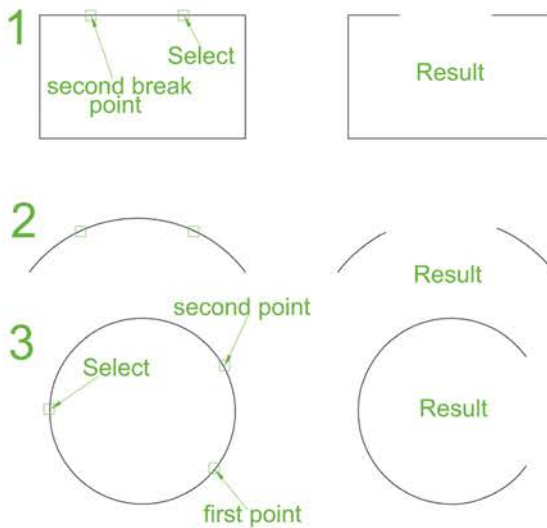

Fig. 6.32 Examples – Break
EXAMPLES – BREAK (FIG. 6.32)
1. Construct the rectangle, arc and circle (Fig. 6.32).
The results are shown in Fig. 6.32.